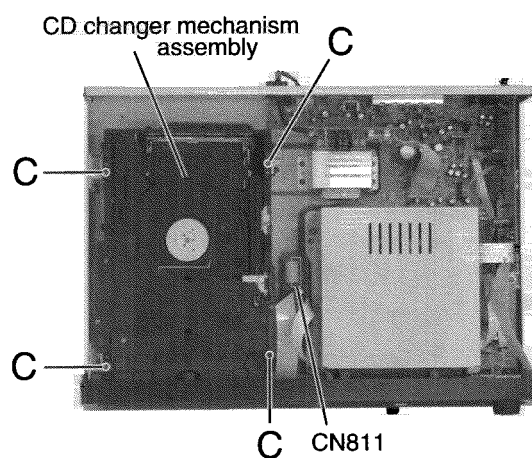

Fig.3
■ Removing the CD changer mechanism assembly (See Fig.3 and 4)